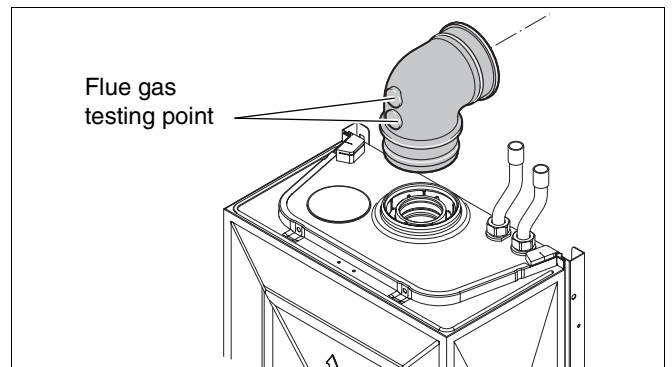

Fig. 9 Elbow with flue gas testing point
- Push the assembly through the wall and slide the turret onto the flue connector. Refer to figure 9.